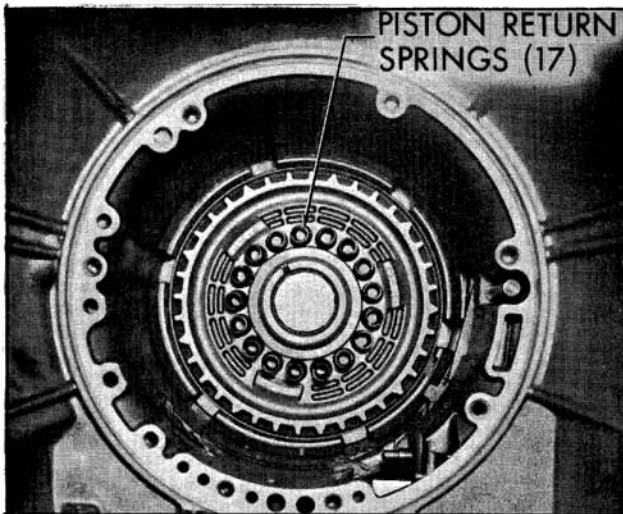

Fig. 6-383 Removing Reverse Clutch Piston Return Springs
6. Remove Tool J-21420-1 & 2 being careful that piston return seat does not catch in snap ring groove. Remove piston return seat and remove 17 piston return springs. (Fig. 6-383)